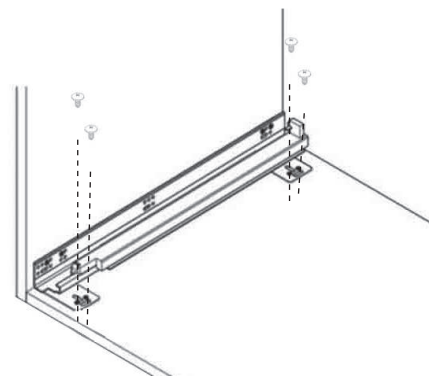

FIGURE 3
Attach slide to the floor using (4) #8x5/8" deep thread truss head screws on each slide (See Fig 3).